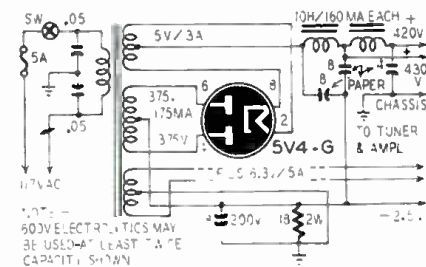

Fig. 2—Note paper capacitors in the filter.
**MATERIALS FOR POWER SUPPLY (FIG. 2)**